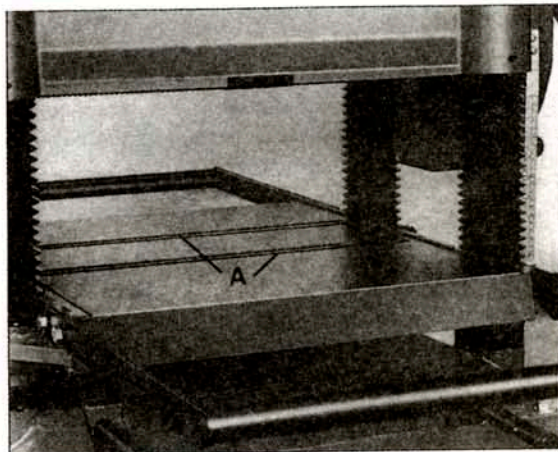

Fig. 13
Your planer is supplied with two table rollers (A) Fig. 13, which aid in feeding the stock by reducing friction and turn as the stock is fed through the planer. It is not possible to give exact dimensions on the proper height setting of the table rollers because each type of wood behaves differently.